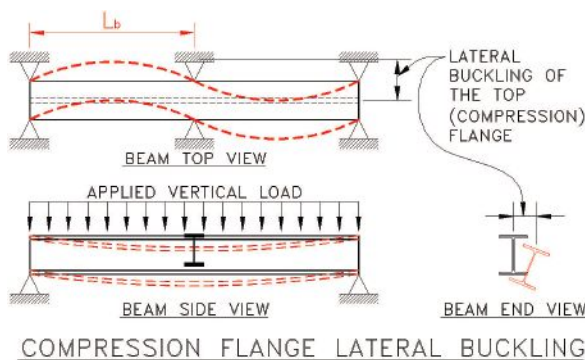

Fig. 5. Lateral torsional buckling of the compression flange with end and midspan lateral support.
**Beam with additional lateral support at midspan.** If you can add another lateral brace point at the midspan of the beam, then the unbraced length of the compression flange  $L_b$  is reduced, and the internal moment,  $M_n$ , that will cause the compression flange to buckle will increase (see Figure 5).